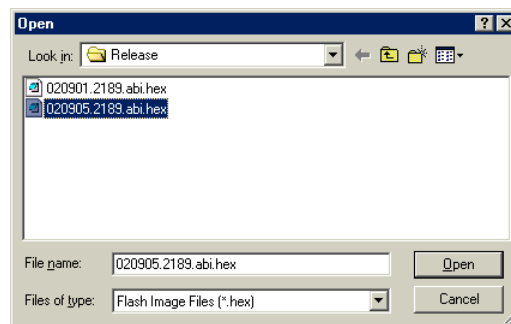

Figure 5-9 Select firmware upgrade
- Select and open the appropriate **.hex** file provided (Figure 5-9). The upgrade will start.